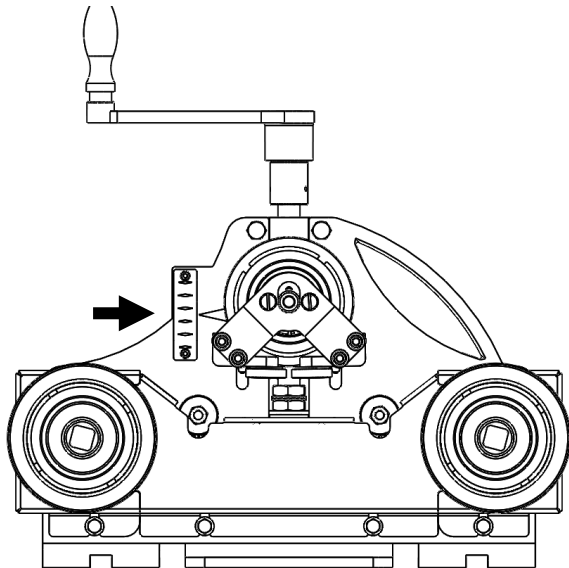
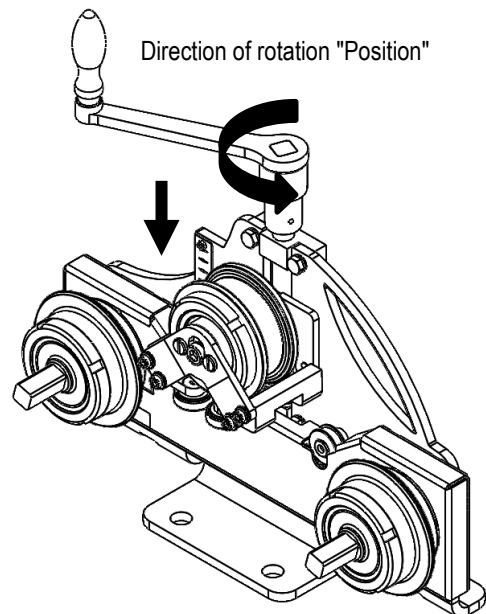

Fig. 18: Adjustment at start of bending (for inner and outer bends)
Fig. 19: Illustration "Position" (for vertical outer bend shown here)
At the beginning, the arrow on the diamond scale (to the left of upper roll) should be placed between the 3rd and 4th diamond (see Fig. 18 and Fig. 19).
- The desired radius is achieved by the gradual positioning of the bending roller. For radii larger than 4 m, positioning is possible with approx. one crank rotation, for radii smaller than 4 m with max. ½ crank rotation (see Fig. 18 and Fig. 19).